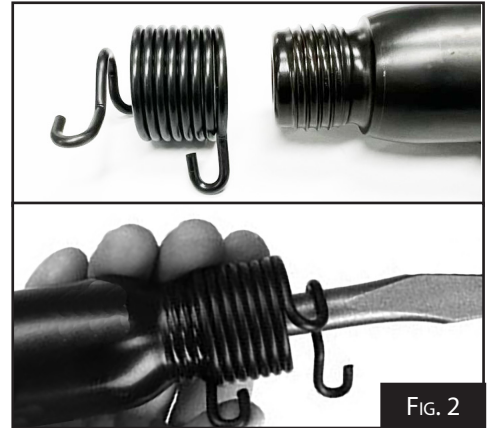

FIG. 2
1. Insert chisel shank into the hex cylinder of air hammer. Slide the spring retainer over the chisel and screw it all the way onto cylinder. Use the rear tab for leverage. Make sure the front coil of the spring surrounds the chisel (Fig. 2).